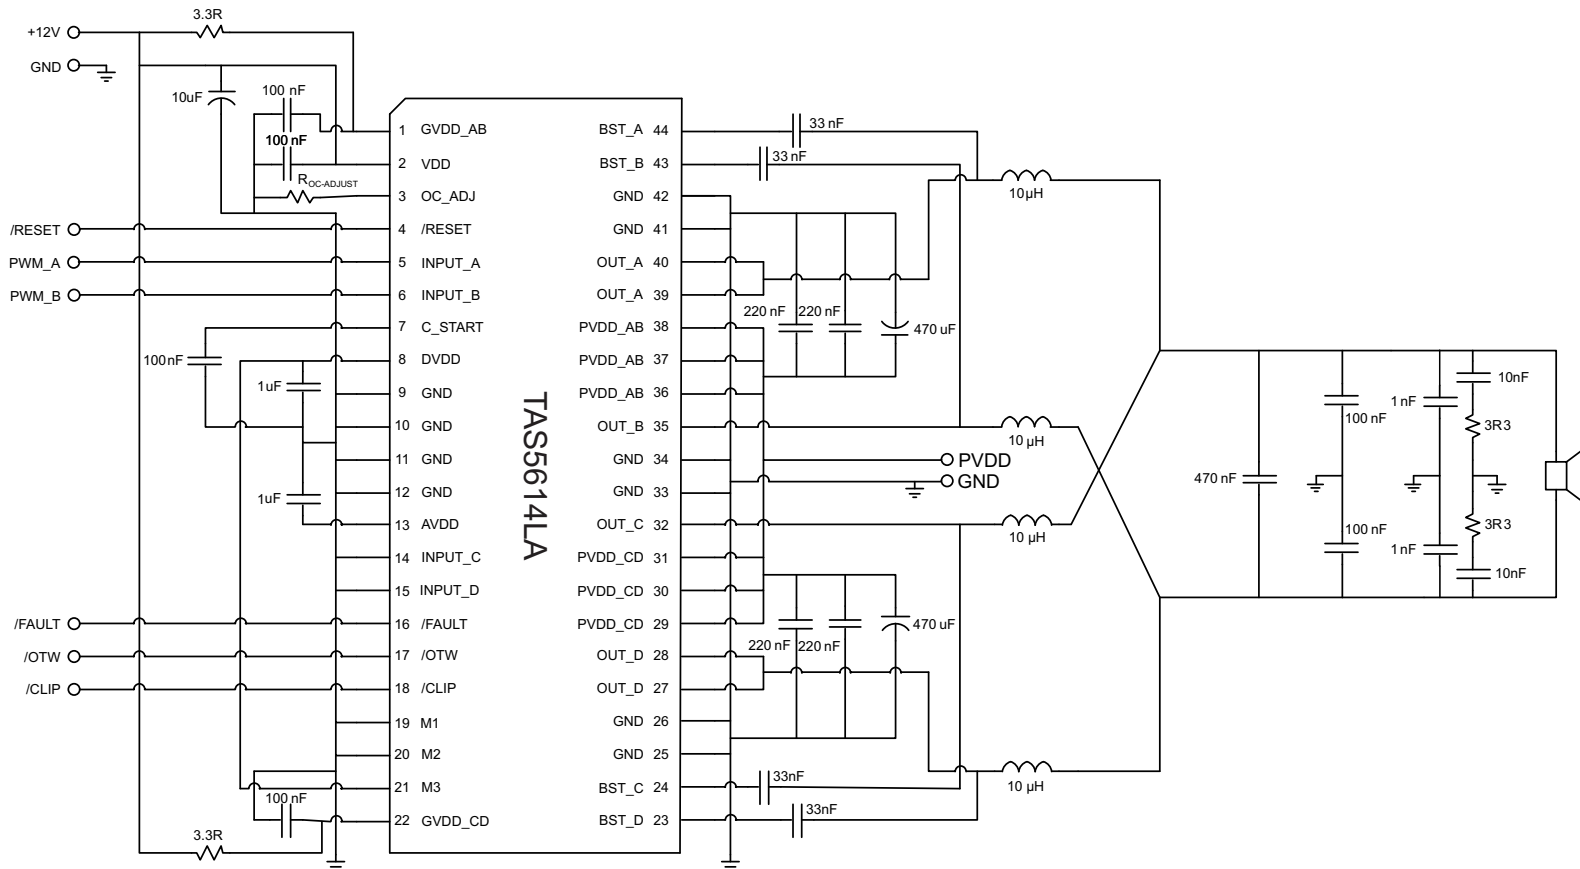

Figure 22. Typical Differential (2N) PBTL Application With AD Modulation Filter
See Figure 22 for application schematic. In this application, one differential PWM input is used with AD modulation from the PWM modulator such as the TAS5558. AD modulation scheme is defined as PWM(+) is opposite polarity from PWM(-). The output PBTL configuration is often used to drive lower impedance load such as a subwoofer.
- Pins 27, 28, 32, 35, 39, 40 - Output pins from half-bridges A, B, C, and D. Connect appropriate bootstrap capacitors and differential LC filter as shown in Figure 22.
- Pins 29, 30, 31, 36, 37, 38 - Power supply pins to half-bridges A, B, C, and D. A and B form a full-bridge and C and D form another full-bridge. A 470-μF bulk cap is recommended for each full-bridge power pins. Two 0.22-μF decoupling capacitors are placed on each full-bridge power pins. See Figure 22 for details.